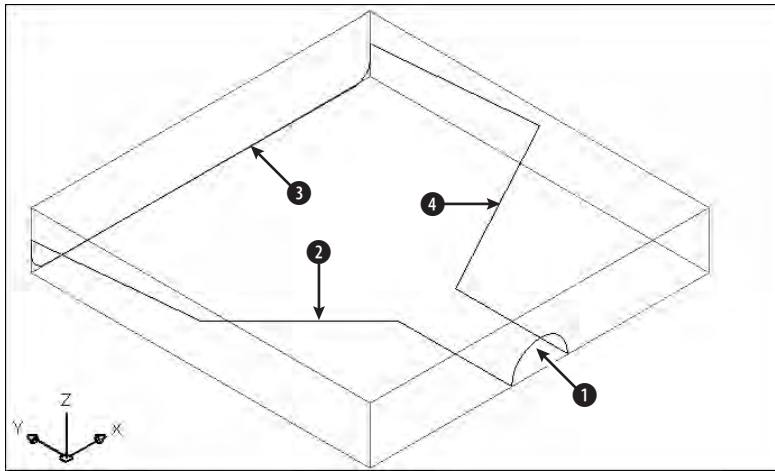

Figure 23-37: The four curves are the basis for creating an edge surface.
2. Save it as `ab23-07.dwg` in your `AutoCAD Bible` folder. You see four curves in a bounding box, as shown in Figure 23-37. In this exercise, you use the curves to draw a dustpan.
4.  Choose Edge Surface from the Surfaces toolbar. At the prompts, select ❶, ❷, ❸, and ❹ in Figure 23-37.